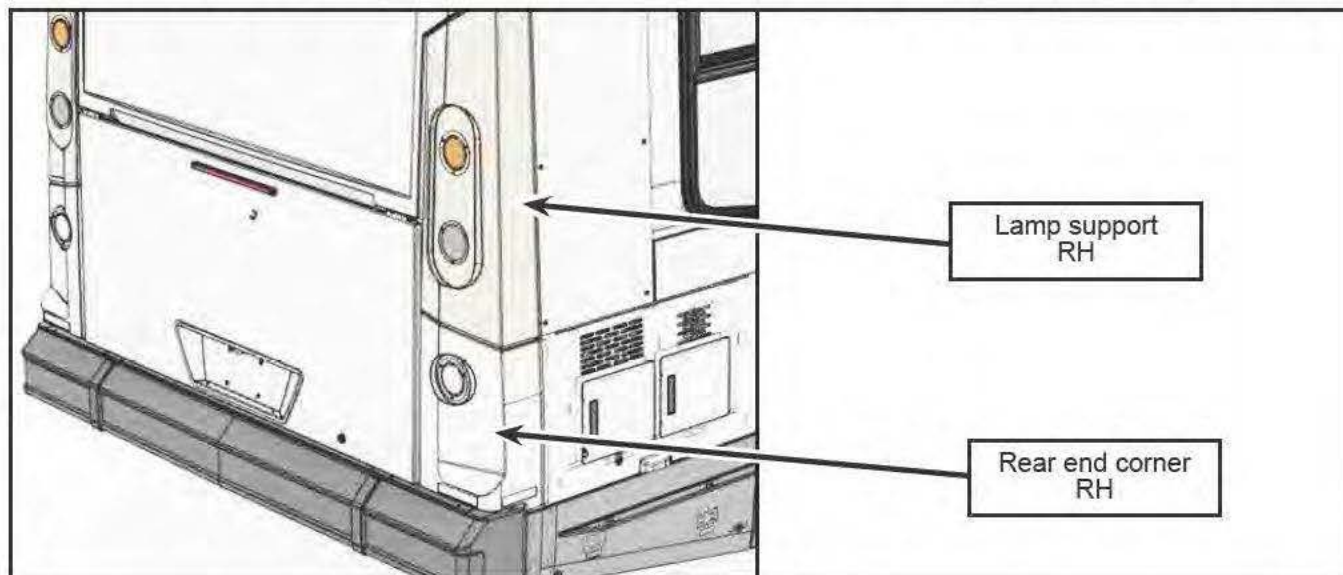

Figure 2 - Remove RH Lamp Support and Rear end Corner
1.6. At the rear of the vehicle, remove the RH lamp support panel and the RH rear end corner (Figure 2).